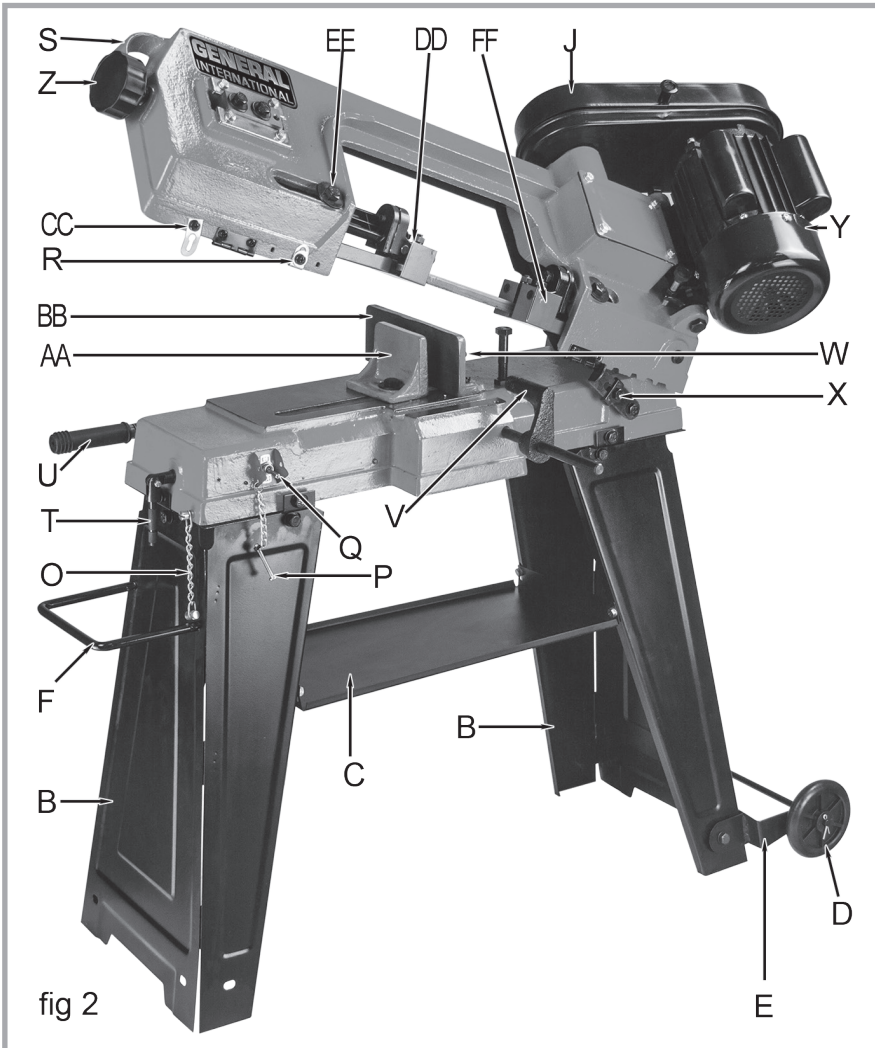

fig 2
Separate all parts from the packing materials and check carefully against fig 2 and the list below.
1. Locate the two leg assemblies (B, fig 2 & 3).
2. Locate the tool tray (C, fig 2).